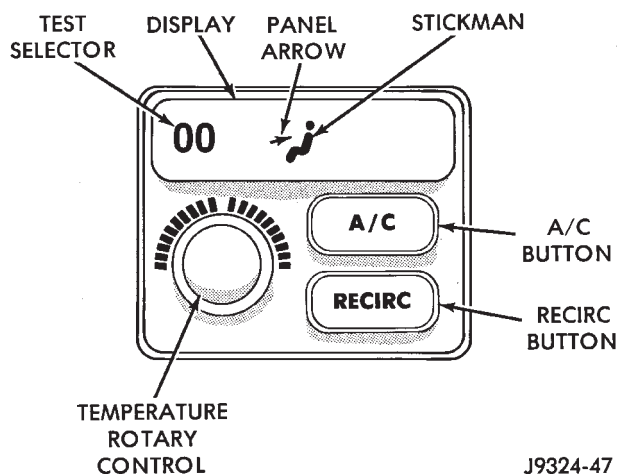

Fig. 15 Test Selector Values Between 100 and 199
(4) If the stick man panel arrow (middle) is showing, the displayed Test Selector value will be a range of numbers between 100 and 199 (Fig. 15).
(5) If the stick man panel (middle) and defrost (top) arrows are showing, the displayed Test Selector